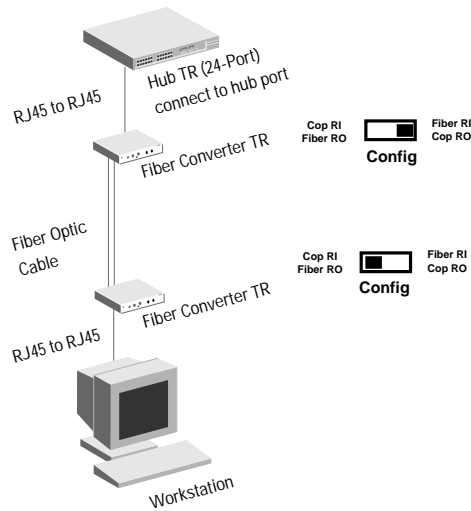

Figure 3 Fiber Converter TR in end station environment
- 3 Config**—Set the Config switch to determine the personality of the Fiber Converter ports. Refer to Figures 3, 4, and 5 for the appropriate switch settings.
When distances between end stations and the hub are greater than can be supported by standard STP or UTP cabling, the Fiber Converter TR provides a fiber option for supporting connectivity up to 6600 ft (2km). A pair of Fiber Converter TRs can be configured to extend a single lobe over optical fiber. In this method, single distant nodes can be supported without extending the main ring. Refer to Figure 3.